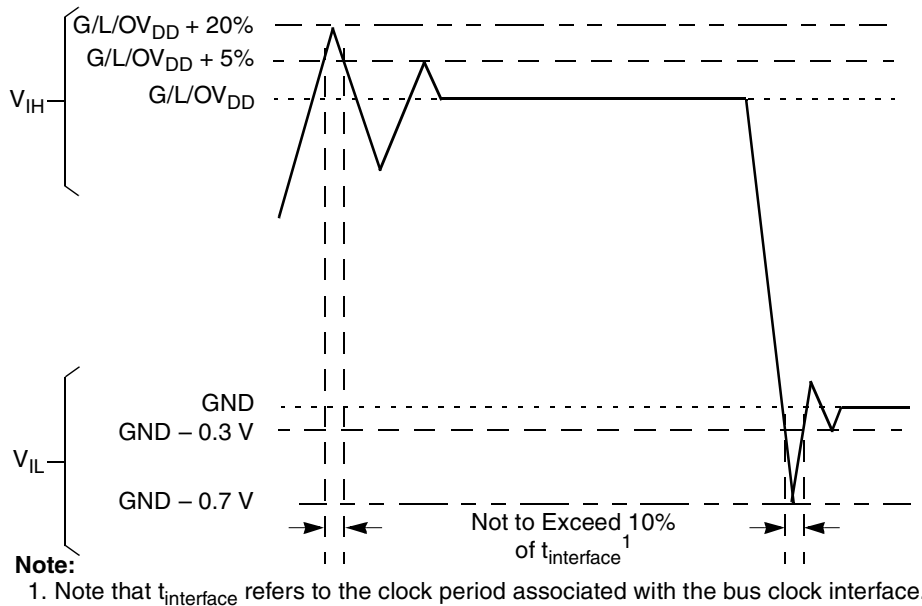

Figure 2. Overshoot/Undershoot Voltage for $G_{V_{DD}}/O_{V_{DD}}/L_{V_{DD}}$
- (M,L,O) V_{IN} and MV_{REF} may overshoot/undershoot to a voltage and for a maximum duration as shown in Figure 2.
Figure 2 shows the overshoot and overshoot voltages at the interfaces of the device.